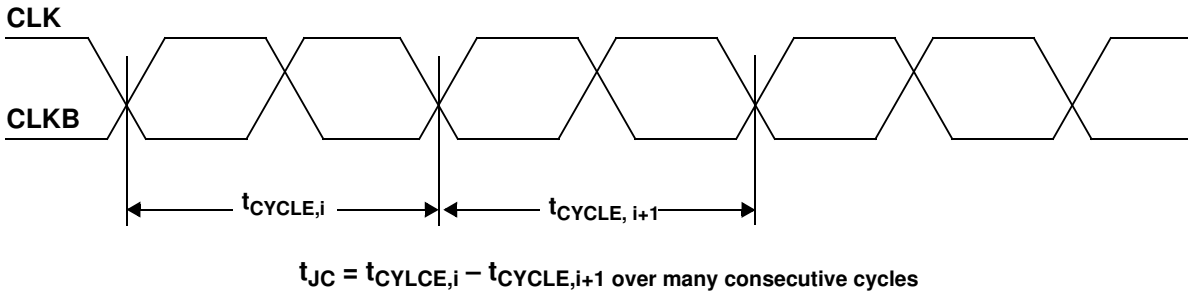

Figure 7. Cycle-to-cycle Jitter
*Figure 7* shows the definition of cycle-to-cycle jitter with respect to the falling edge of the CLK signal. Cycle-to-cycle jitter is the difference between cycle times of adjacent cycles over many cycles (typically 12800 cycles at 400 MHz). Equal